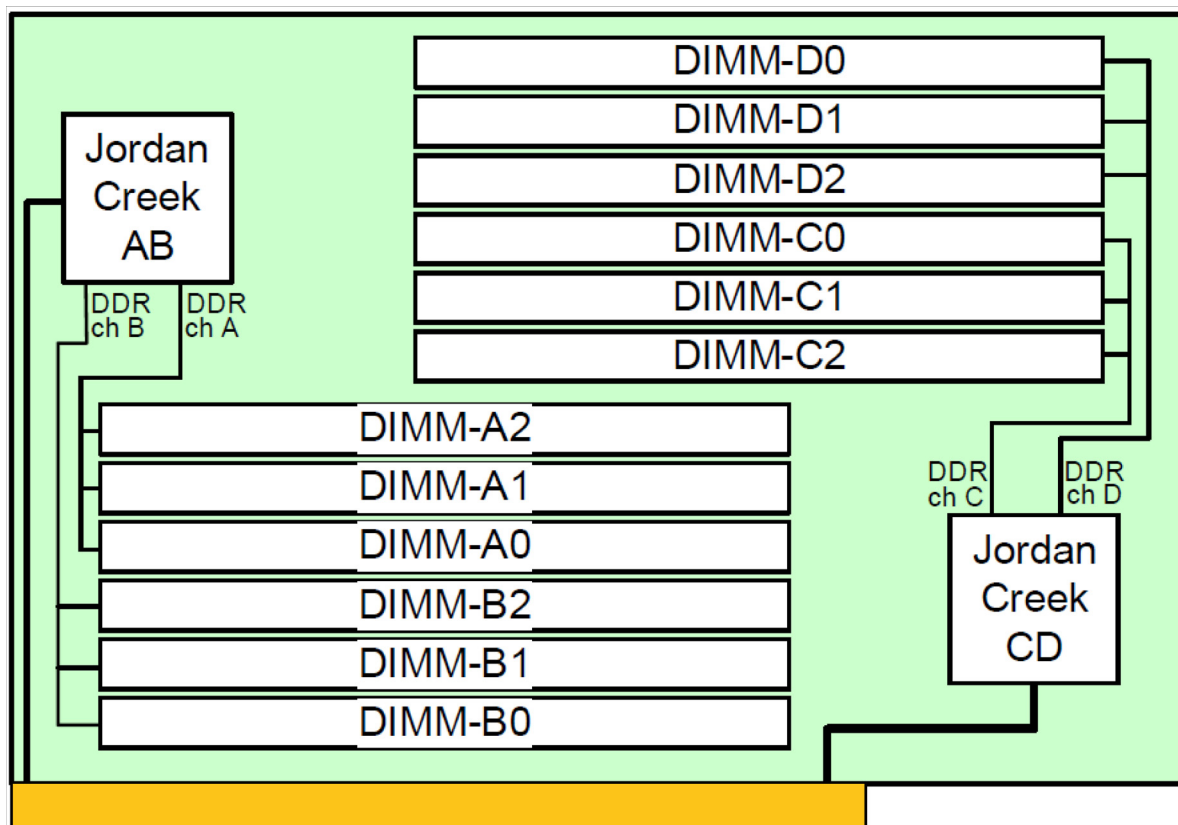

Figure 3-4 UV 300 Node Memory Riser Block Diagram Example
- If a processor accesses memory that it is connected to on a UV 300 motherboard, the memory is referred to as the processor’s *local memory*. Figure 3-4 on page 37 shows a conceptual block diagram of the motherboard’s memory riser board pathways.